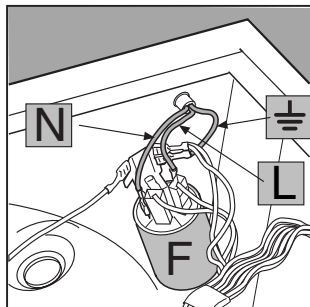

Fig. 4
3. Disconnect the wires from the radio interference suppressor **F** [fig. 4] noting as to their position (**Blue=N** wire; **Brown=L** wire) leaving the earth wire until last  $\perp$ .